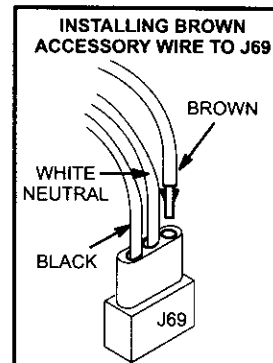

FIGURE 27
- 4 - An optional 120 volt accessory wire is provided with G26 units. Install brown accessory wire into J69 jack plug by inserting the pin of the brown wire into the open socket of the jack. See figure 27. Any accessory rated up to 4 amps can be connected to this wire. Connect the neutral leg of the accessory to the neutral white wire in the make-up box. The accessory terminal is energized whenever the blower is in operation.